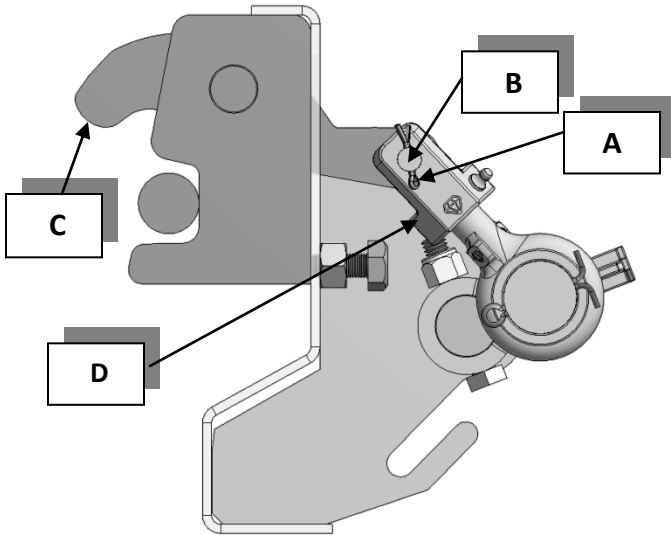

Figure 2
- With the tailgate latch (**C**) in the open position (*figure 2*), note which side of the tailgate is the least closed.